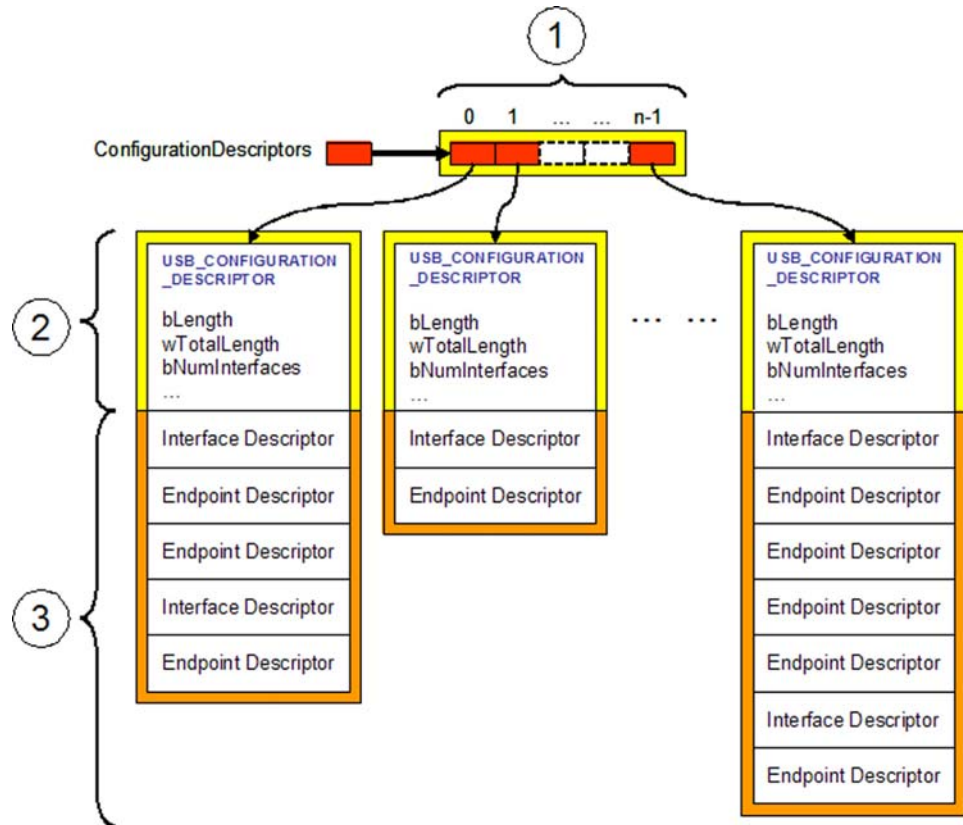

Figure 12: ConfigurationDescriptors memory allocation structure (yellow: allocated memory, orange: additional allocated memory)
The ConfigurationDescriptors variable is an array of pointers to a USB_CONFIGURATION_DESCRIPTOR. It is initialized in the function *ConfigureDevice*. The following steps have to be done to correctly initialize this variable. The number of configuration we get from the DeviceDescriptor structure member *bNumConfiguration*. The first step is to allocate enough memory to keep all the pointers that point to a possible configuration of the device (Figure 12: position 1). In a second step we get all those configuration descriptors by repeating the following procedure:
After having received the configuration descriptor we can get the information about the total size of the whole configuration descriptors including all interface and endpoint descriptors through the member wTotalLength. (Figure 12: position 2)
2. Allocate memory in the exact size of wTotalLength and call the `_URB_CONTROL_DESCRIPTOR_REQUEST` again to get the complete configuration descriptor (Figure 12: position 3)